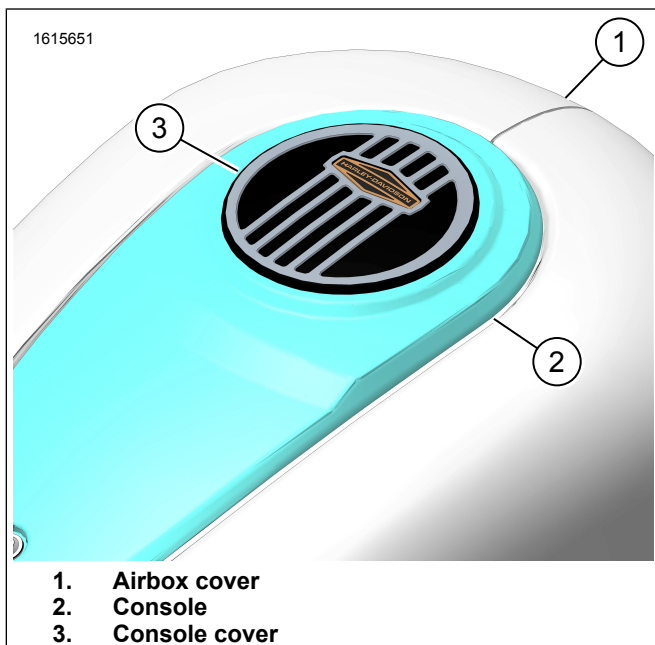

Figure 2. Console Trim Installed
2. Figure 2 Test fit console cover (3).
3. Clean console (2) area with isopropyl alcohol. Dry with a lint free cloth.
1. Figure 2 Remove adhesive backing from console cover (3).
2. Install console cover (3) using marks made earlier as a guide.